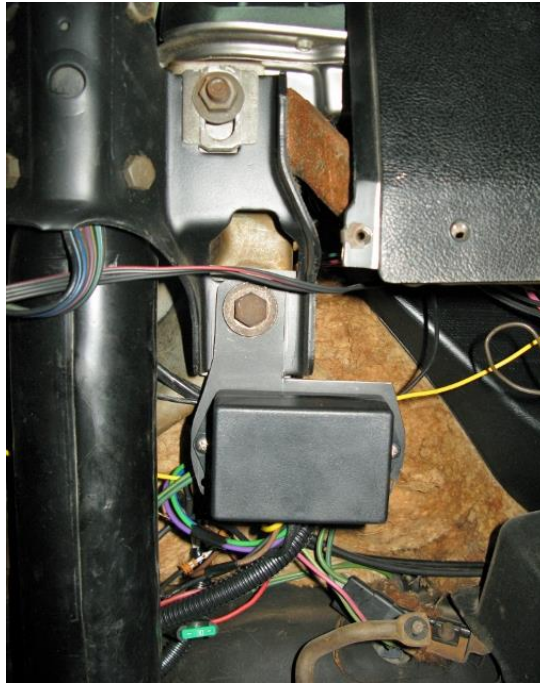

Figure 9 – Install Module & Mounting Plate
15. Remove the flange nut on the right side of the steering column and install the module and mounting plate (Figure 9 on the next page). **NOTE:** The module connectors should be pointing towards the firewall.